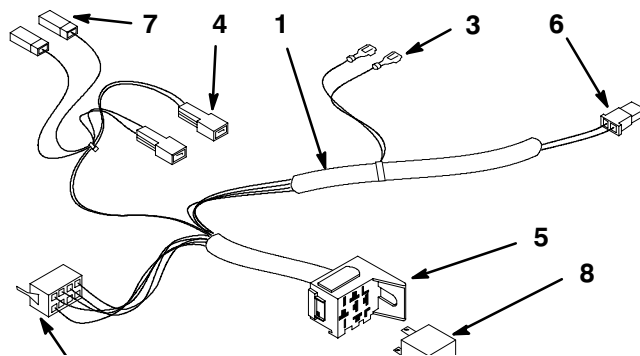

Figure 9
Use figure 9 as a reference for harness connections.
1. With the control panel removed, install self threading bolt and relay socket to panel (Fig. 9 and 10).
2. Plug in the pink wire lead into the red wire tab connector (Fig. 9 and 11). Plug the black wire lead into the black wire tab connector (Fig. 9 and 11).
3. Plug the red wire receptacle to the terminal which the pink wire was located on hour meter (Fig. 9 and 11).
4. Plug the black wire lead to the terminal which the black wire was located on hour meter (Fig. 9 and 11).
1. From Cruise control harness, plug cruise switch connector into the cruise switch as shown in figures 9 and 12.
2. Install the black and tan brake switch terminals from cruise harness into the brake socket on unit's harness (Fig. 9 and 13).